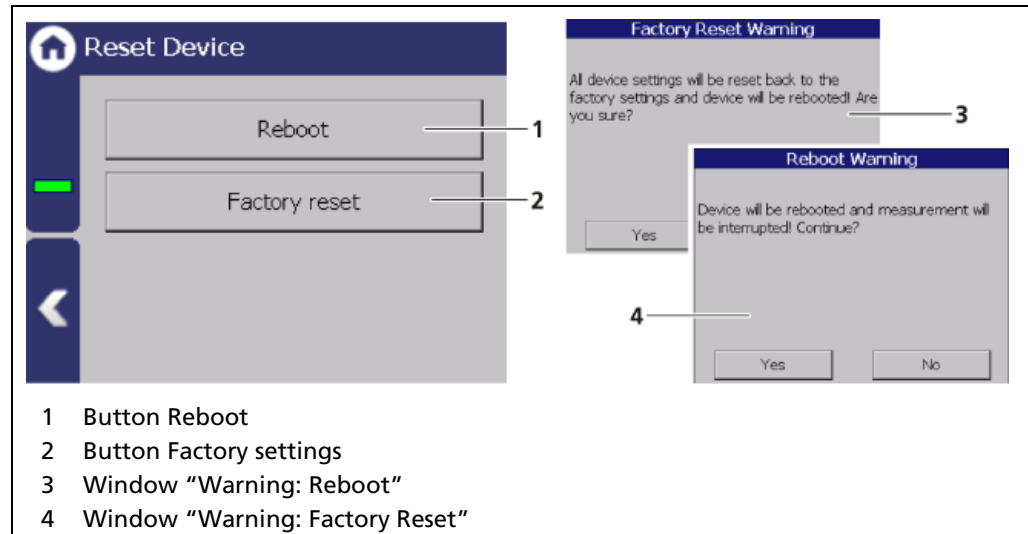

Fig. 41 Reset device
1. To restart the device, click the button <Restart> (Fig. 41, item 1).
- ▶ A window with a warning "Restart" (Fig. 41, item 3) opens.
1. To reset the evaluation unit to the factory settings, click the button <Factory settings> (Fig. 41, item 2).
- ▶ A window with the warning "Factory settings" (Fig. 41, item 4) opens.